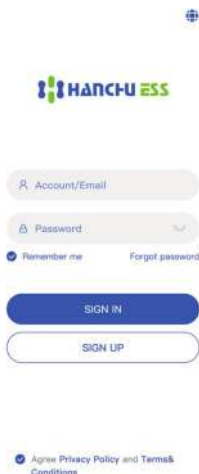

Fig. 1
- If you have already registered, you can log in directly . Then you can turn to **"9.2.2 Bind decives"**.If you don't have an account yet, tap **"Sign up"** to register as shown in Fig. 1.